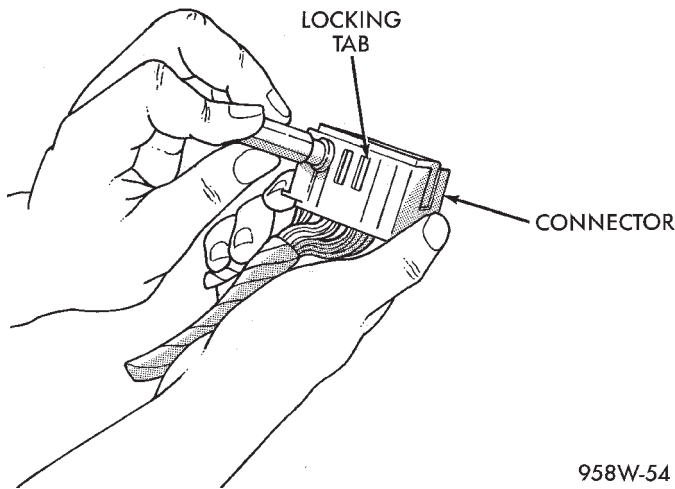

Fig. 19 Augat Connector Repair
- (1) Disconnect battery.
- (2) Disconnect the connector from its mating half/component.
- (3) Push down on the yellow connector locking tab to release the terminals (Fig. 19).